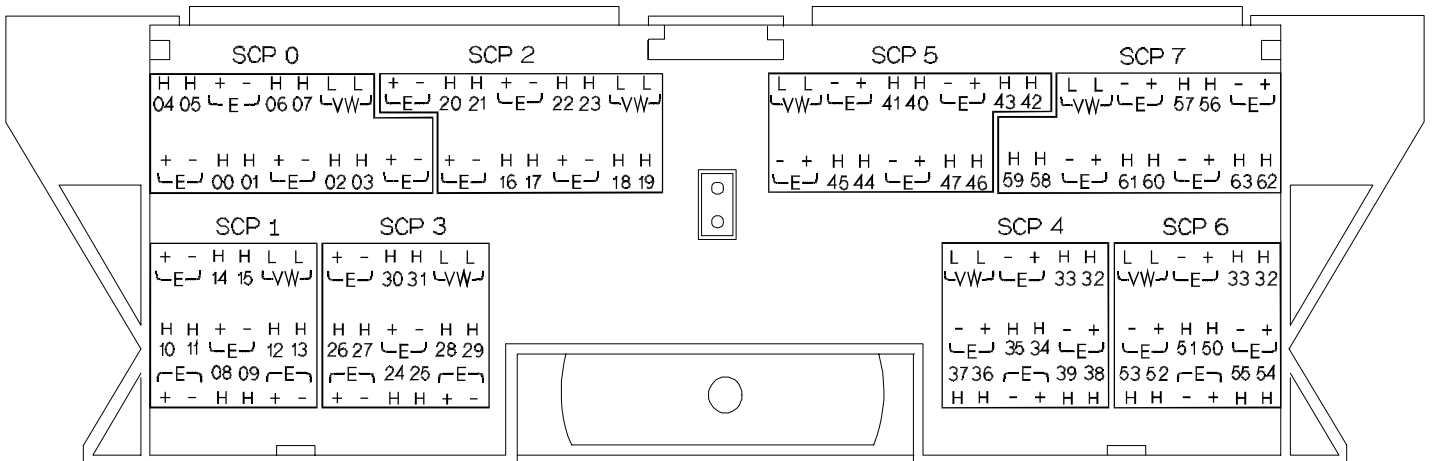

Figure 8 HP E1413 Option 16/17 Terminal Module Connections
- For HP E1413B and below Terminal Modules, use stickers for HP E1413 Option 15/16 SCPs. The connections are shown in Figure 8.